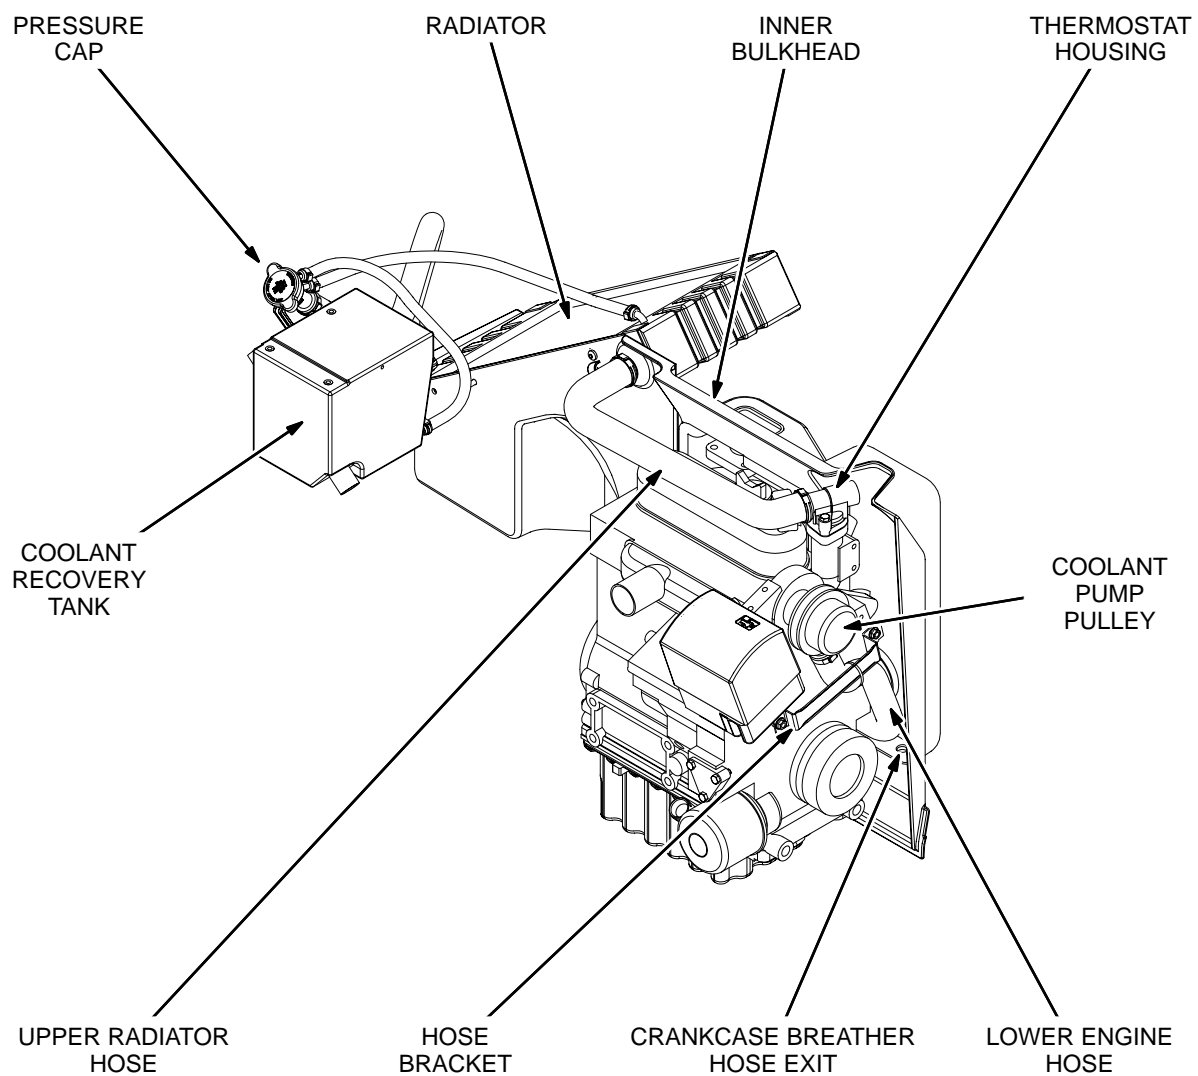
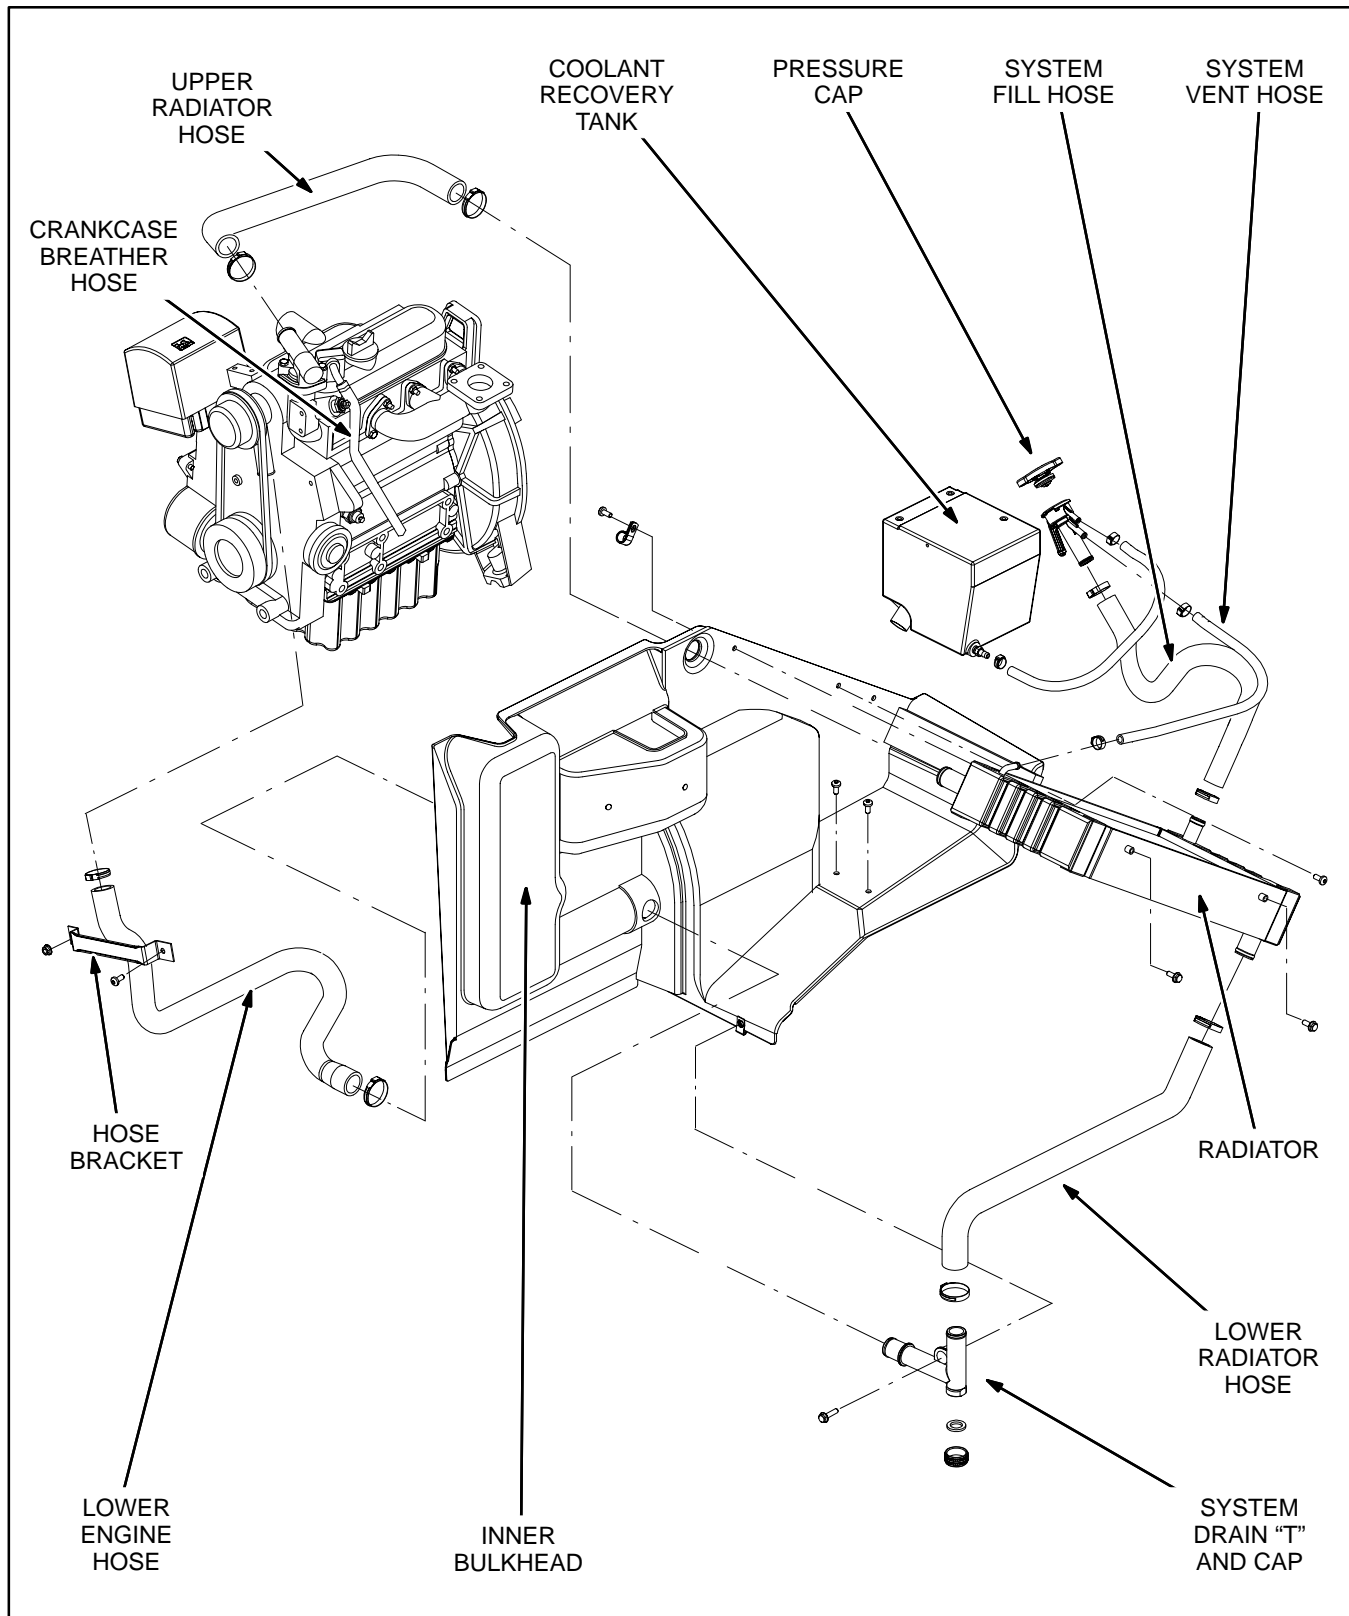

FIGURE 9-1. ENGINE COOLING SYSTEM (I OF 2)
FIGURE 9-2. ENGINE COOLING SYSTEM (2 OF 2)
The genset has a liquid cooled engine. A centrifugal blower (p. 11-2) is mounted on the end of the generator (PMA) rotor to move air for cooling the genset and radiator. The blower pulls air in from an opening in the bottom of the genset to pressurize the engine compartment. Air flows through the radiator from the top side into the muffler compartment and then out the bottom. See Figures 9-1 and 9-2.
4. Remove the screw which secures the system drain "T" (Figure 9-2).
Installation is the reverse of removal. If the inner bulkhead was removed, make sure the end of the crankcase breather hose (Figure 9-2) is pushed back through the exit hole in the bulkhead (Figure 9-1).